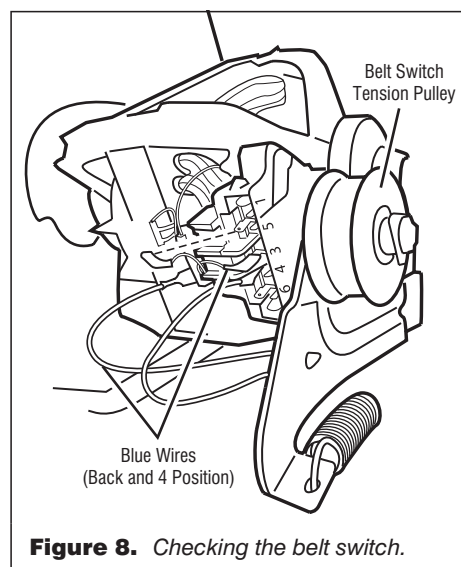

Figure 8. Checking the belt switch.
9. Check the belt switch by measuring resistance between the two blue wires as shown in figure 8, while pushing up the belt switch tension pulley.